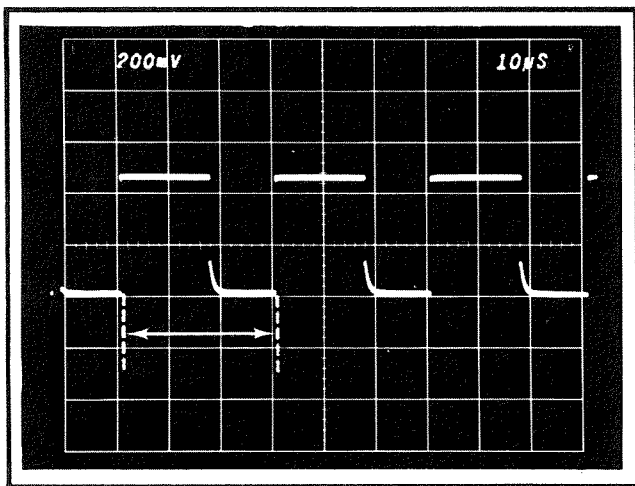

Fig. 5-13. Trigger holdoff measurement.
- c. Check the display for trigger holdoff times as given in Table 5-5. Holdoff is the time between the leading positive-going portions of adjacent trigger pulses. See Fig. 5-13. Reset the 7B50 Time/Div switch as required.